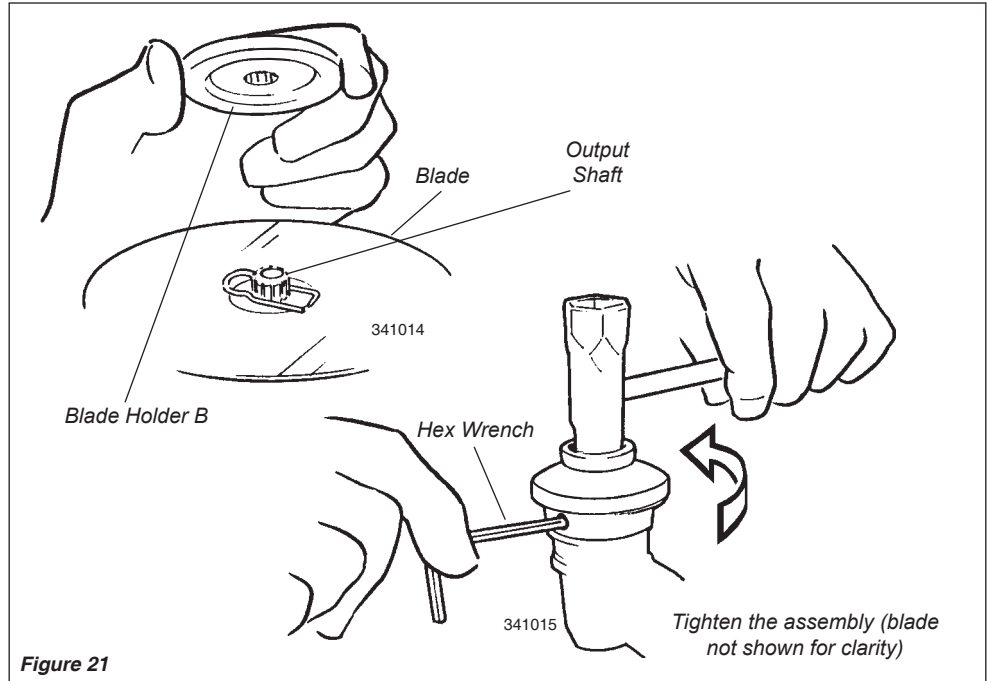

Figure 21
4. Lock the blade in place by centering the safety clip on the output shaft. See Figure 21.
5. Install blade Holder B on the output shaft. See Figure 21. The recess in the holder must completely cover the safety clip, and must fit tightly against the blade.